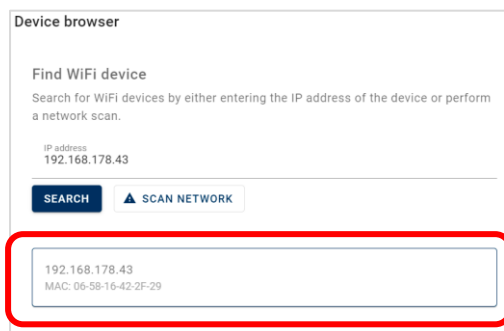

Figure 55
6. Select the tablet's IP address (Figure 55). The IP address can be found in the tablet settings. Use the tablet's search function to find. The successful connection is indicated by a green check mark.